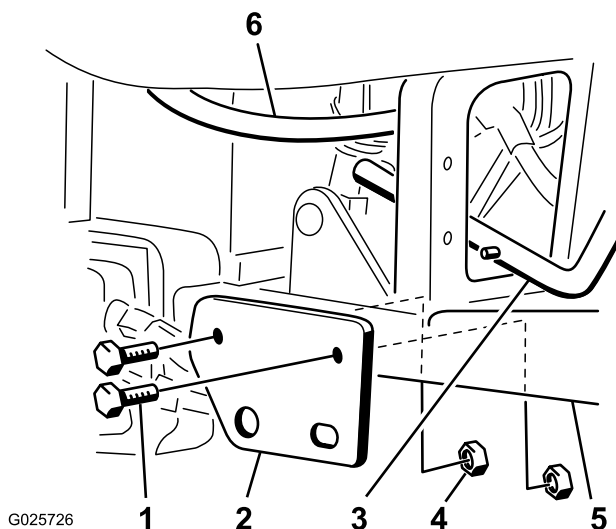

Figure 2
5. Install the mounting bracket of the scarifier lift-handle assembly to the right footrest tubes with 2 bolts (1/2 x 3-1/4 inch) and thin locknuts (1/2 inch), as shown in Figure 2.
Note: There must be a minimum clearance of 1/8 inch between the hydraulic line and the lift handle assembly. Gently position the hydraulic line as required (Figure 2).